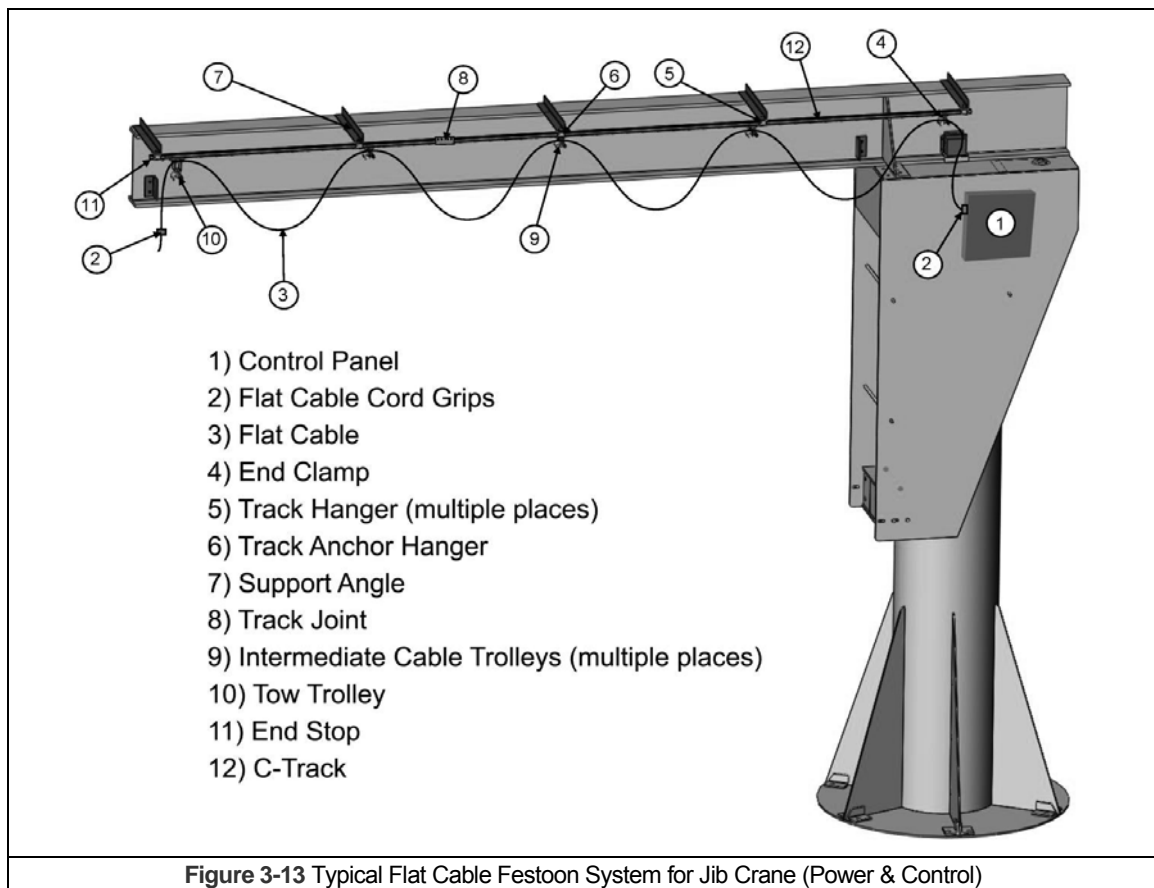

Figure 3-13 Typical Flat Cable Festoon System for Jib Crane (Power & Control)
- 3.7.2 Reference **Figure 3-13**.